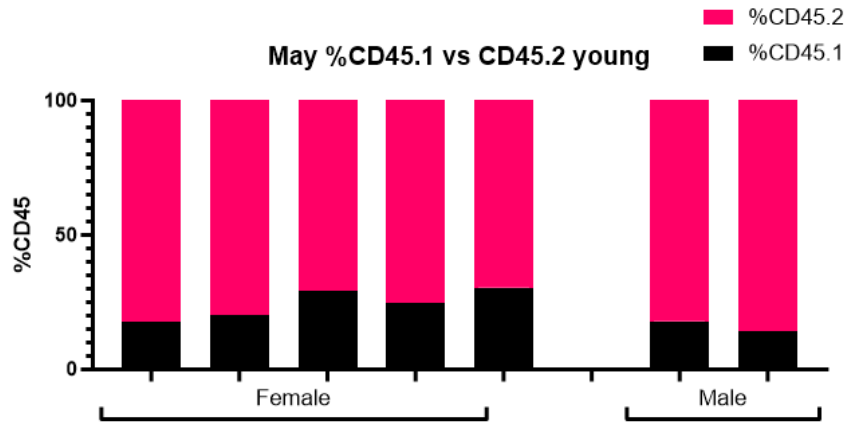

Figure 1 Recipient mice (CD45.1 background) were given CD45.2 donor bone marrow. Average: 22% CD45.1 vs 78% CD45.2.
30. 6-8 weeks following transplant mice should be engrafted. This can be tested using peripheral immunophenotyping. See figure 1 for an example.